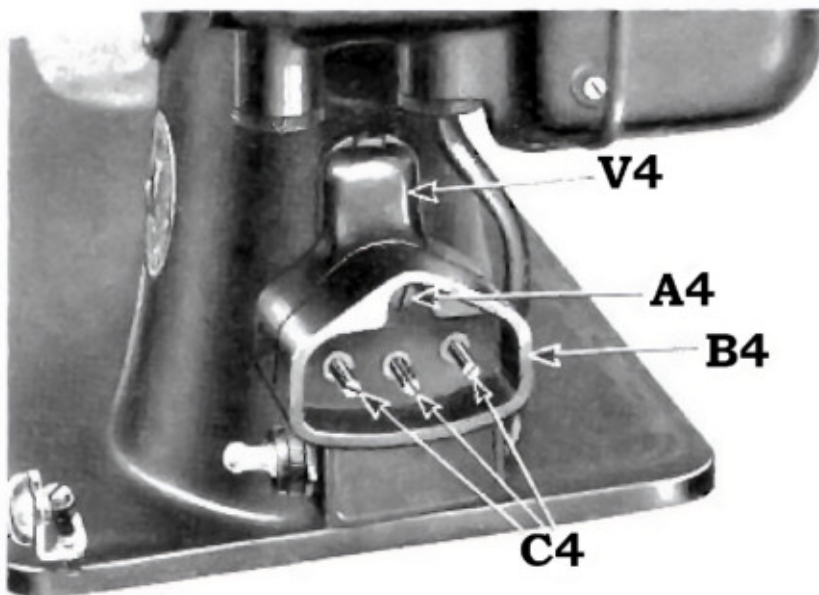

FIG. 7. THREE-PIN TERMINAL
If the pins of the three-pin terminal fit loosely in the three-pin terminal plug, slightly spread apart the prongs of the pins. These pins (C4) are shown in connection with Machine 201-2 in Figs. 7 and 15,
**Three-Pin Terminal.** Remove the screw (A4, Fig. 7) to displace the three-pin terminal (B4) from its bracket (V4) on the machine arm.
While the removal of the three-pin terminal bracket (V4) is not essential, it is recommended when inspecting the connections at the three-pin terminal. This bracket is removed by taking out the screw at (A4, Fig. 7).
**Replace the Three-Pin Terminal—Machine 201-2.** Replace the bracket (V4) and insert and tighten the screw at (F13). Make sure that the three-pin terminal (B4, Figs. 7 and 10) is firmly seated on the bracket (V4) and insert and tighten the screw (A4, Fig. 7).